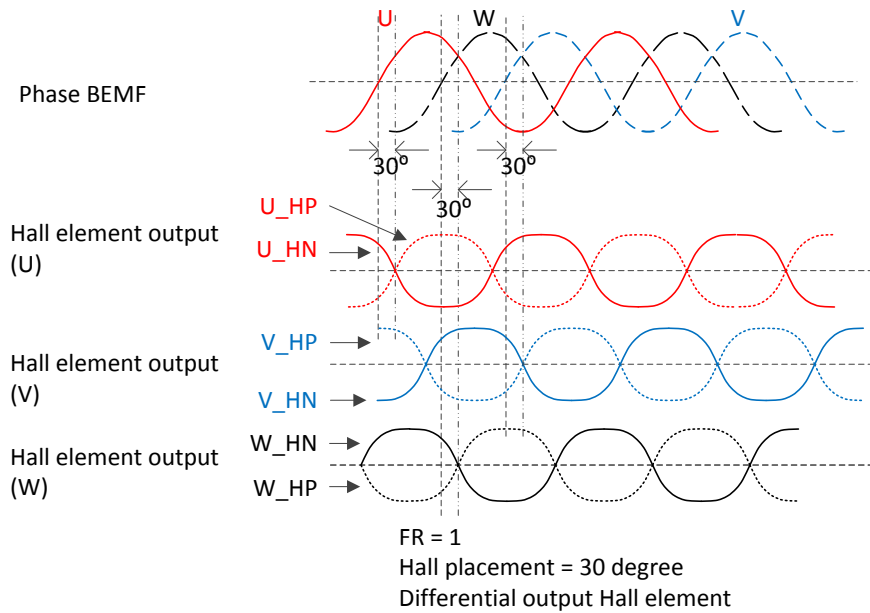
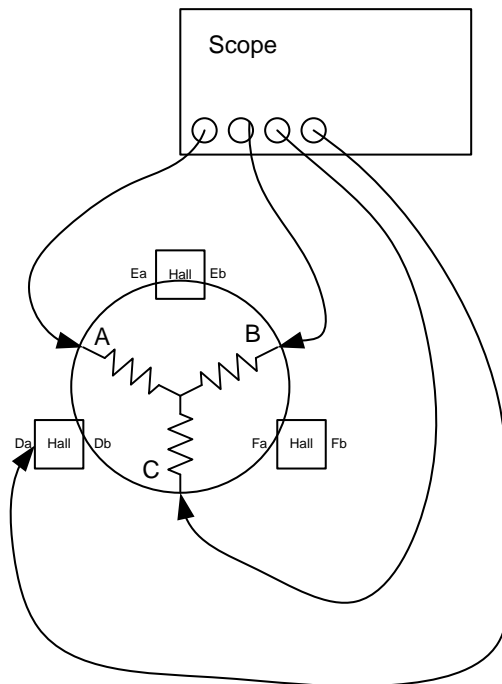

图 26. Correspondence Between Motor BEMF and Hall Signal (FR = 1, 30° Placement)
图 30. Motor Measurement
3. Phase U is leading phase W by 120°, phase W is leading phase V by 120°. The Hall signal positive output is 30° lagging of respective phase BEMF. Choose FR = 1 and 30° placement option (see 图 26).
5. Use 4 channel Scope to observe signals. Connect probe -1, 2, 3 to A, B, C terminals of the motor (phases), probe-4 connects to Hall Da (or D). Name the probe 1 (terminal-A) as U-phase. (see 图 30)
6. Turn the rotor manually in clock-wise direction. If the waveform on probe-1 (U-phase) is leading probe-2 (terminal-B) by 120°, name the terminal-B as phase W and terminal-C as phase V. Else if waveform on the probe-2 is leading probe 1 (U) by 120°, terminal-B as V, terminal-C as W. At this stage all three phases of the motor are identified.
9. After phase UVW and Hall UVW positive negative are identified, manually rotate the motor again, check if the result matches 图 24 and 图 25 (0° placement) or 图 26 and 图 25 (30° placement).